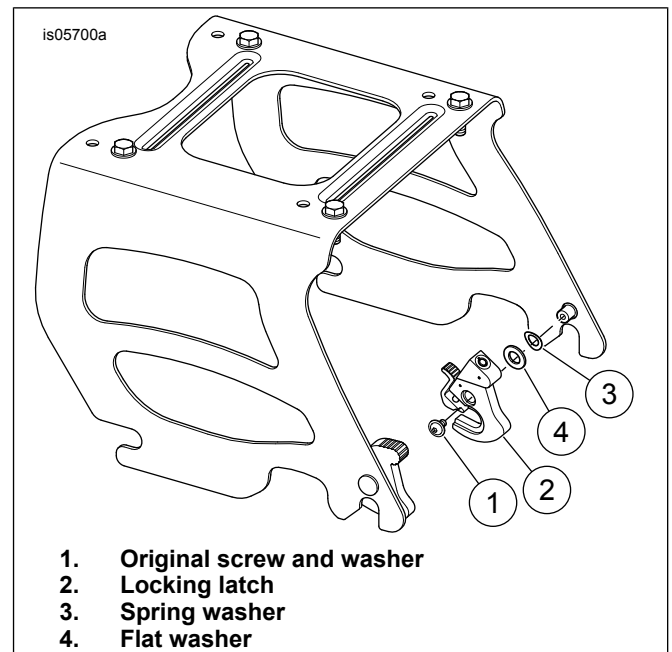

Figure 5. Inner Right Installation
1. See Figure 5. Remove right non-locking latch and discard.
2. Install flat washer (4) from kit over spring washer on right mounting hub.
4. Install original screw and washer (1).